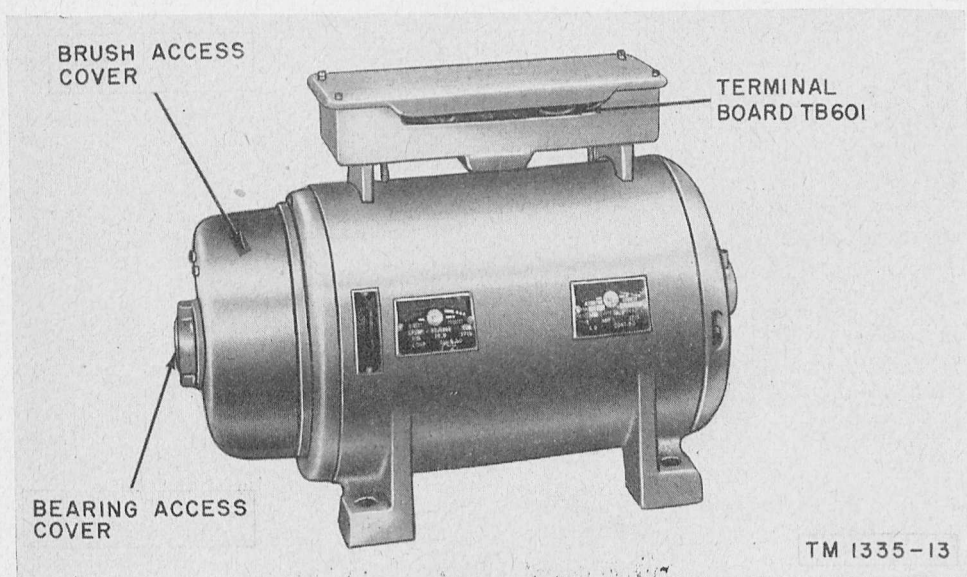

Figure 11. Motor-generator PU-243/SPN-11.
a. *Motor Generators.* Except for electrical differences required by their individual input voltage ratings, the d-c motor generators are alike (fig. 11). Each motor generator consists of a d-c